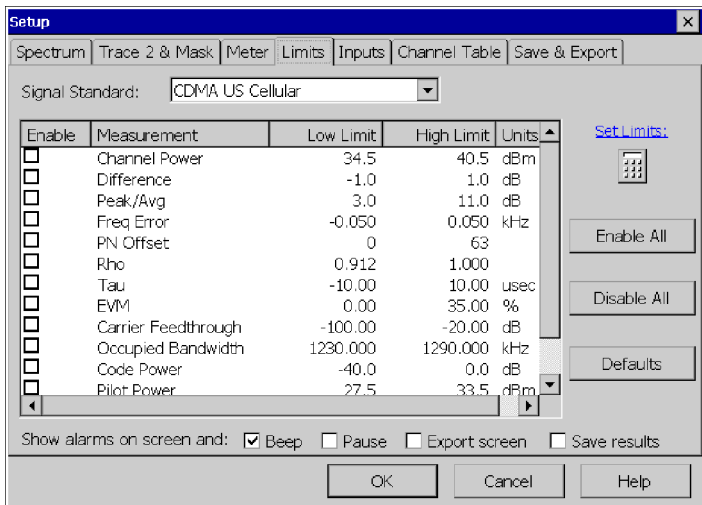

Figure 3-31: Enabling limit testing
2. Tap the **Limits** tab. See Figure 3-31.